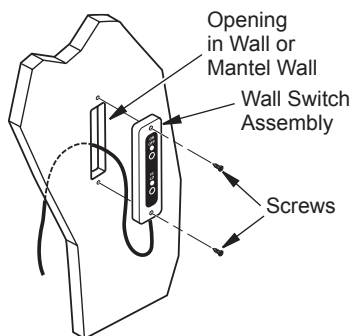

Figure 13 - Securing Wall Switch Assembly
16. Position wall switch assembly vertically over wall openings with decal lettering upright (see Figure 13).
12. Carefully pass wall switch assembly through rectangular opening from inside mantel (see Figure 13).